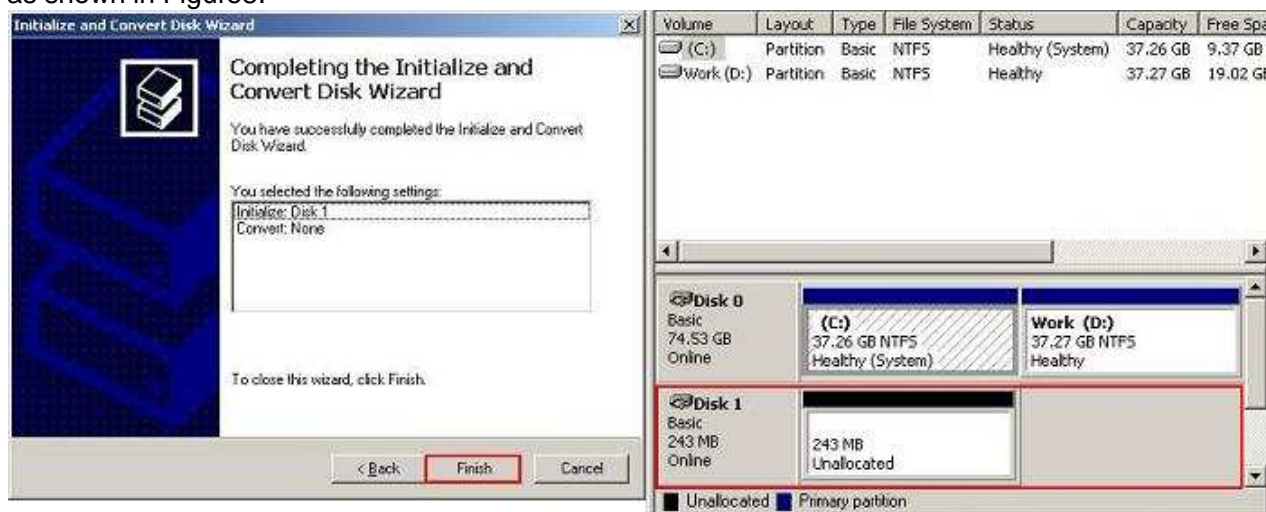

Figure8 Disk is initialized, but unallocated
- On pop-up menu, select Next button until disk is initialized. New disk which is unallocated will be displayed as shown in Figure8.